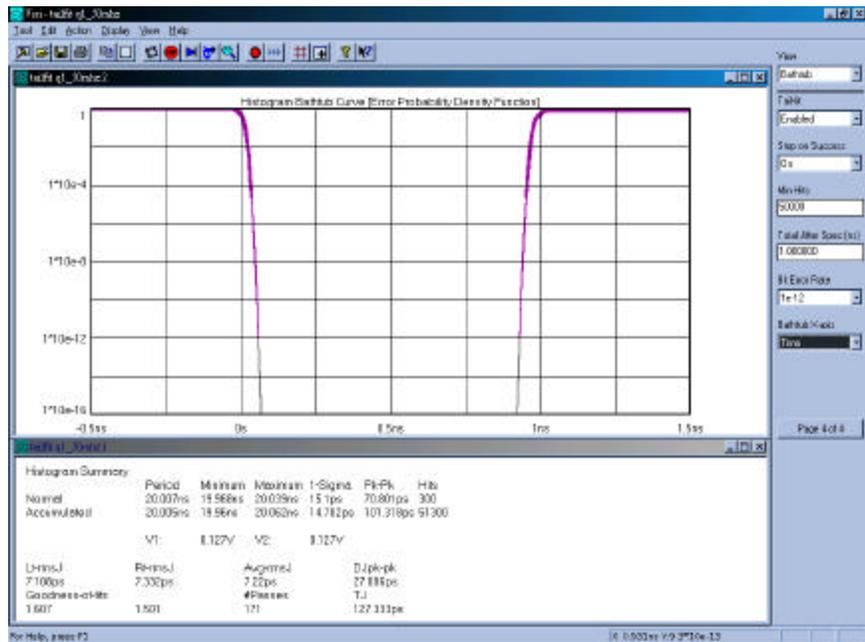

Figure 9. Bathtub Curve
Figure 9 shows a Bathtub Curve also referred to as an “error probability density plot”. This plot is derived from a convolution of DJ and RJ values from TailFit™. The plot shows a view of the long-term reliability of the signal under test. Total Jitter (TJ) is extracted directly from this plot and is a pk-pk value at a specific bit error rate or number of clock cycles. The TJ value is read from the curve at the point that the color turns to grey.
The Y-axis in these examples represents a number of cycles of the clock. Figure 9 & 10 show a clock's TJ calculated to  $10^{12}$  cycles or  $10 \times 10^3$  seconds of a 50MHz clock. In Figure 9, the specification is set to 1000 ps, so that at  $10^{12}$  cycles or  $10 \times 10^3$  seconds, Total Jitter (TJ) = 127.333ps.
A specification failure would be indicated if the lines met above the “bit error rate” set in the dialog menu. In Figure 10, the spec is set to 120ps (for the same clock used in Figure 9). Note that this plot shows TJ=120ps, since the actual TJ=127.333ps the clock failed the 120ps spec. The plot indicates that the device under test is predicted to fail the spec at just over  $1 \times 10^{-11}$  seconds.